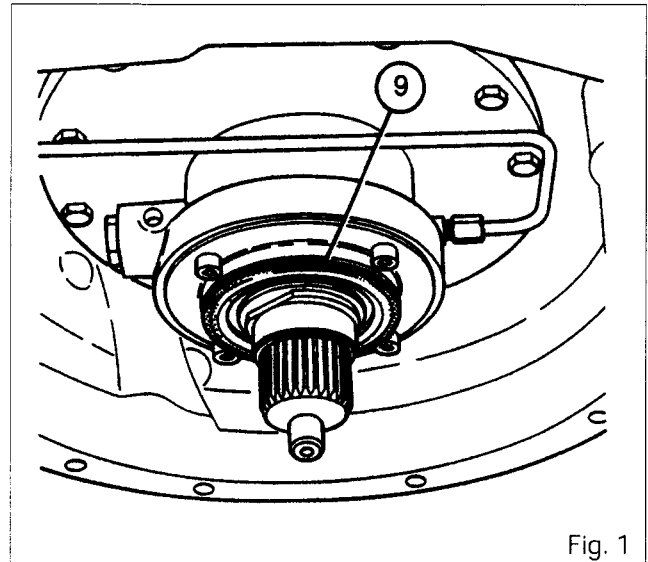

Fig. 1
10. Check that the shims (9) are installed (Fig. 1).